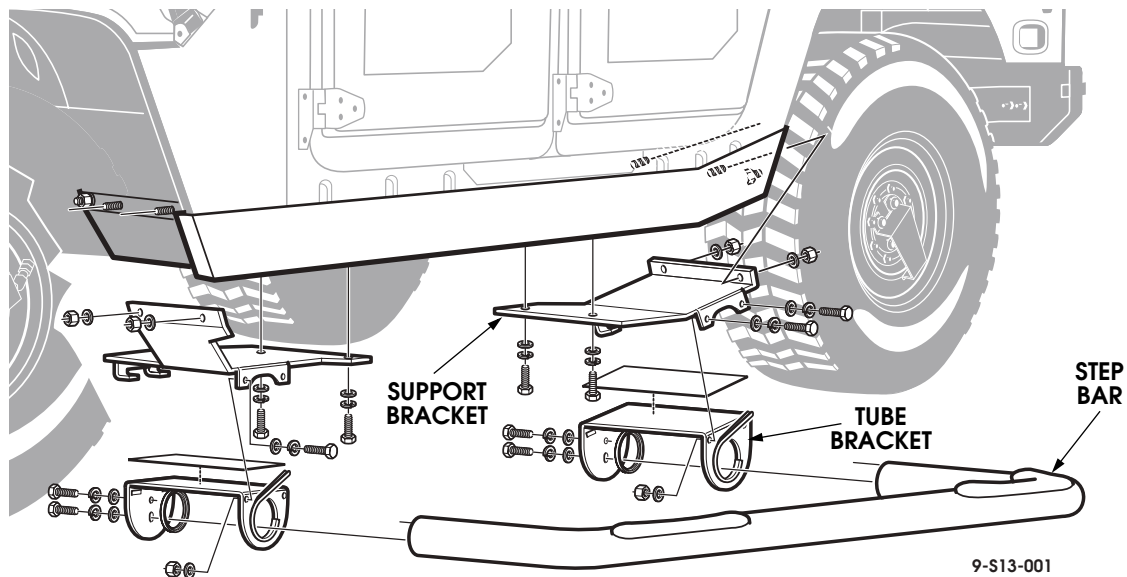

Figure 13-53: Side Step Bar Installation
1. Remove the four bolts securing the tube brackets to the support brackets (See Figure 13-53).
1. Install the front and rear support brackets on the rocker panel protection with bolts, washers and nuts (See Figure 13-53).